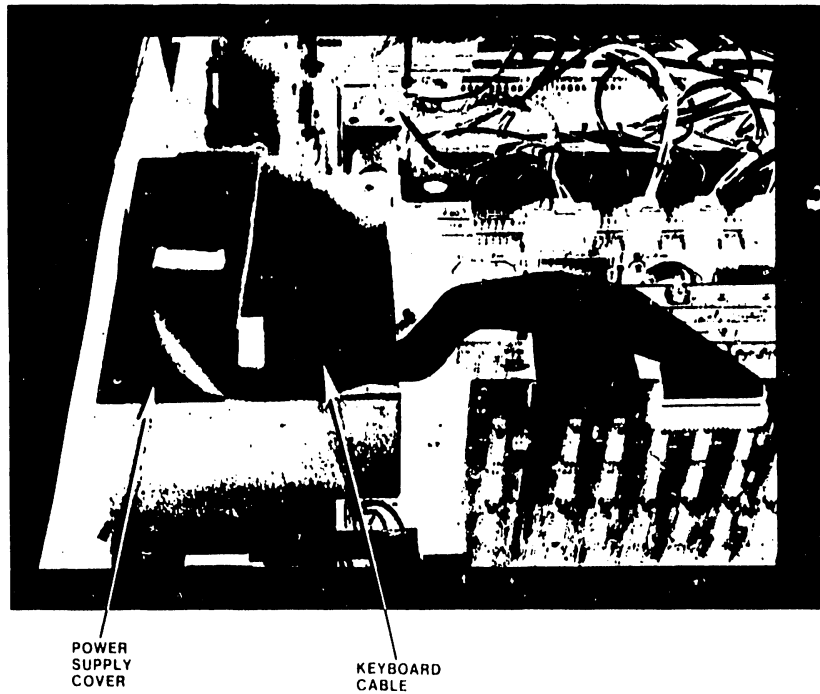

FIGURE 18
12. a. Reroute the Keyboard cable as shown in the before and after figures 18 and 19.